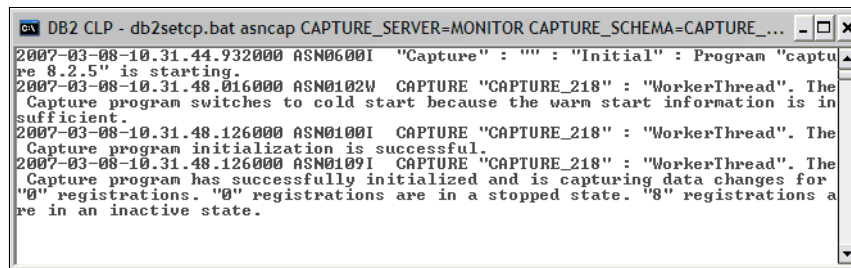

Figure 14-45 DB2 replication scripts: StartCapture
- ▶ A new window opens (Figure 14-45). This window must be left open or data replication will cease.